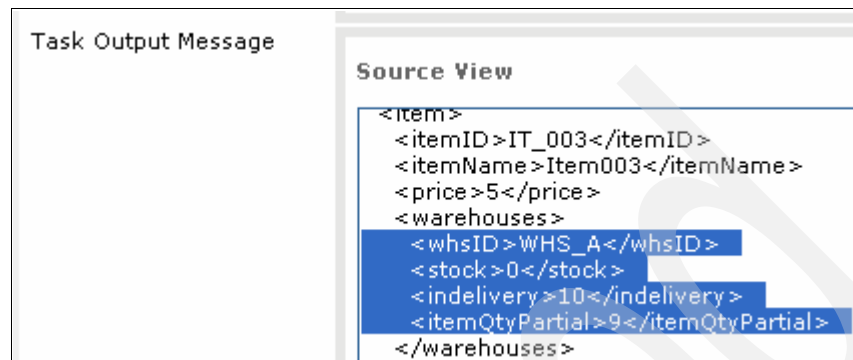

Figure 3-163 WHS\_A's values
20. Right-click the selected item tag, and then select **Paste**. Replace the itemQtyPartial for WHS\_A and WHS\_C. Set the itemQtyPartial for WHS\_A to 9 as shown in Figure 3-163.